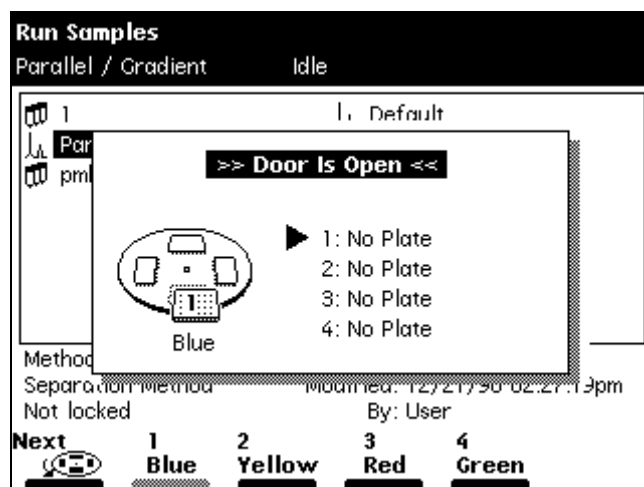

Figure 3-23 Door Is Open Dialog Box
To move the plate carrier from one position to the next, press **Next** or press the color-coded plate number key in the Door Is Open dialog box (Figure 3-23).
1. Open the 2795 Separations Module sample compartment door. The Door Is Open dialog box appears (Figure 3-23).
5. Close the sample compartment door. The Door Is Open dialog box closes (Figure 3-23).